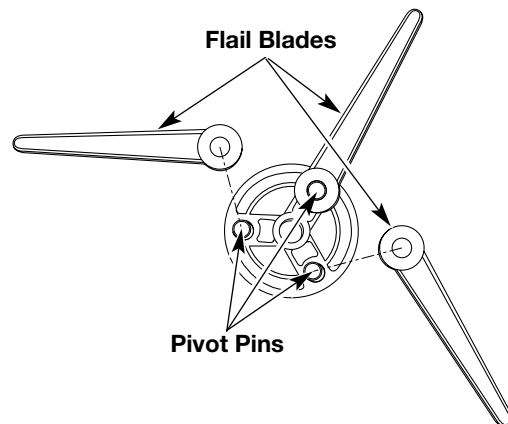

Fig. 6
2. Place one Flail Blade on each Pivot Pin (Fig. 6).